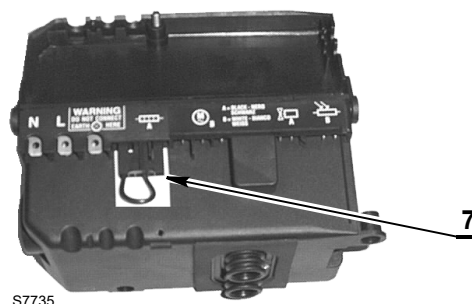

Fig. 16
- If the heater is damaged, introduce the bridge 7) (Fig. 16) into the safety housing so that the burner can operate without the heater until the heater is replaced.
As a spare part, the housing is delivered with the bridge 7) (Fig. 16) in place.